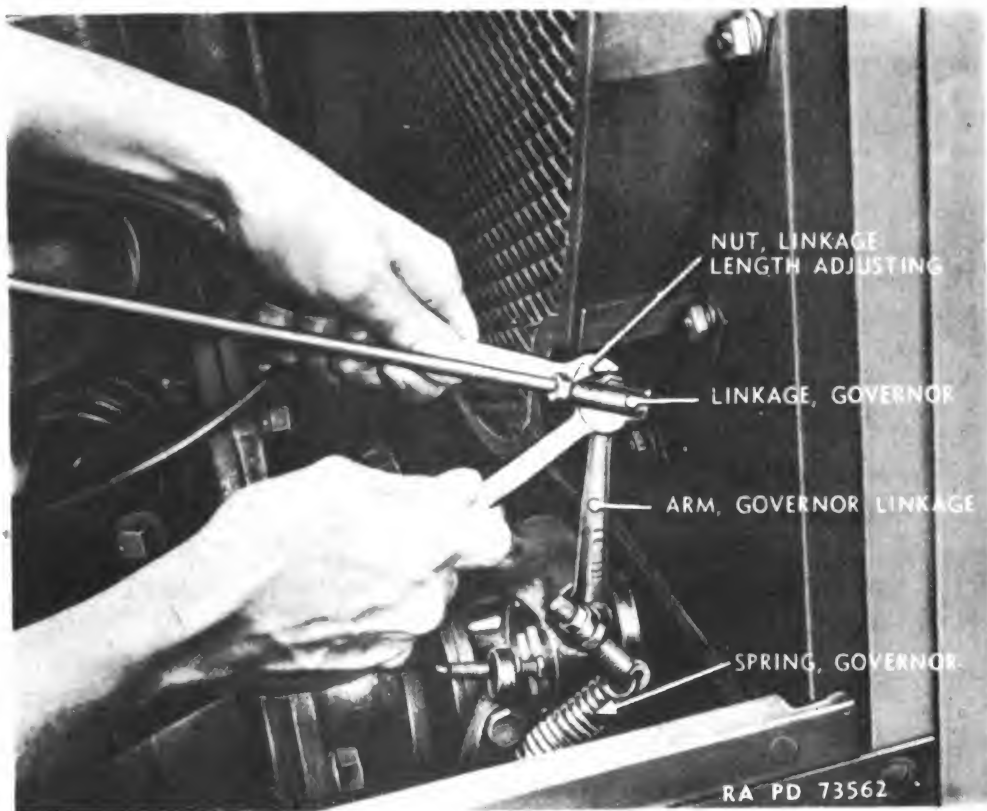

Figure 108 – Disconnecting Governor Linkage at Governor
(1) Hold nut and take out screw fastening governor linkage to governor arm. *Do not disconnect at throttle box* (fig. 108).